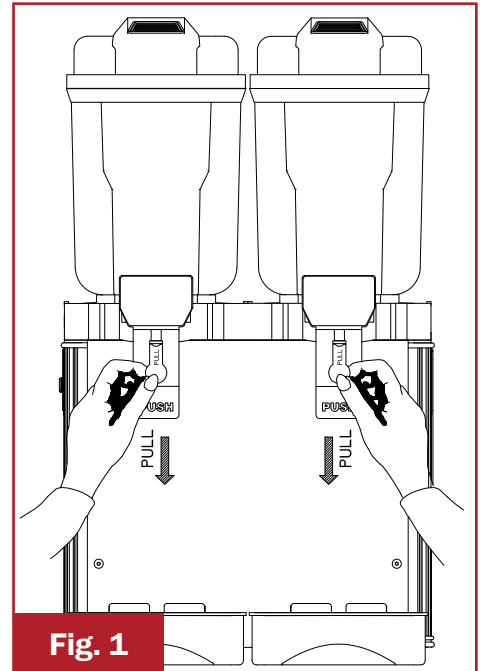

Fig. 1
4. Before operating, remove the green plastic plug(s) from the tap(s) (Fig. 1).